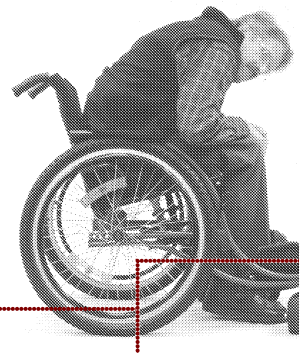

Figure 2.9a
**Lean forward** so your body rests on your knees and the weight is lifted off your buttocks (Figure 2.9a).